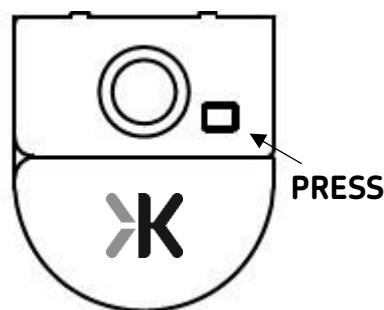

Fig. 1
- Press the two clips at either end of the luminaire to gain access (see Fig. 1)